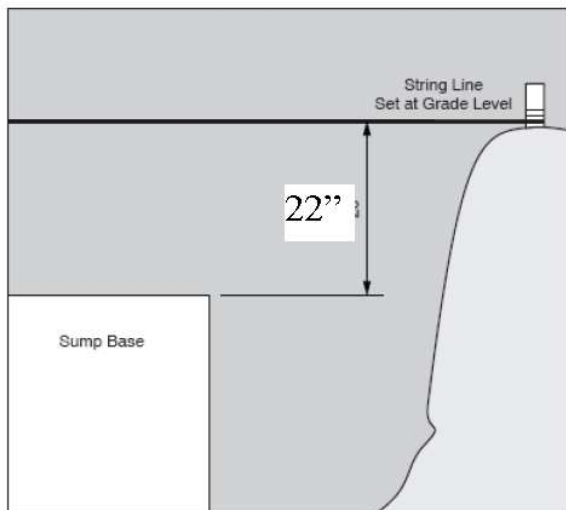

Figure 3
4. The top of the sump base must be 22" below the string line set at finished manhole grade level. This will provide sufficient clearance for both the OPW / Fibrelite top hat and the water shroud platform. See Figure 3.
10. Use a level to set the sump base on collar. Make sure the sump will be level to finished grade. Ensure the 22" dimension in Figure 3 is correct.